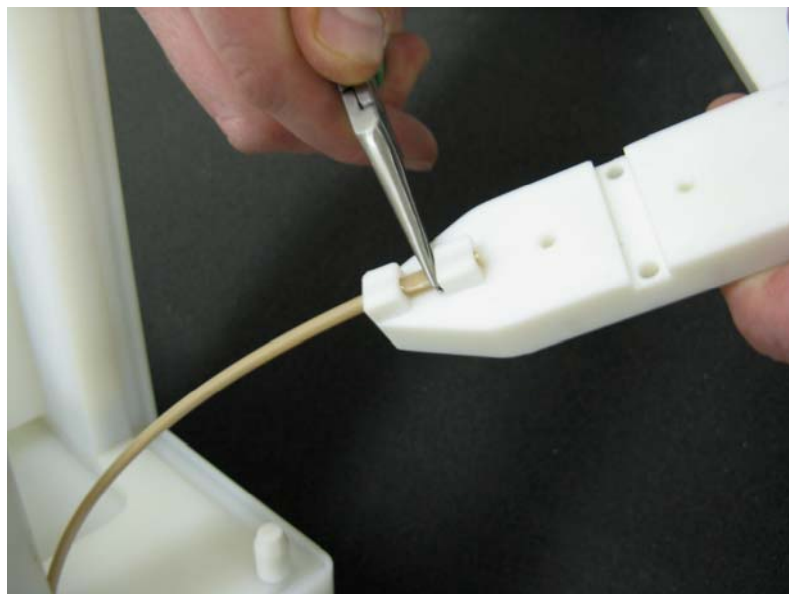

Figure 2.
8. Remove the peek tubing by cutting out the clamped portion in the gap at the attachment point on the back of the slider. Alternatively, you can squeeze the tubing with needle nose pliers to “un-flatten” it and pull it out of the bottom of the slider. (Figure 2)
14. Using your pliers, crimp the peek tubing in the gap in the back of the slider. (Figure 2) Squeeze the tubing well enough to flatten it at the top and bottom of the gap and check for play by moving the slider up and down. Crimp as necessary to minimize play in the slider.